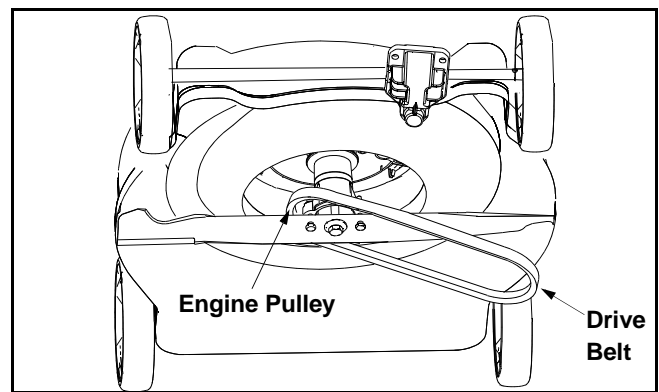

Figure 15
8. Slide the belt off the engine pulley and around the blade. See Figure 15.